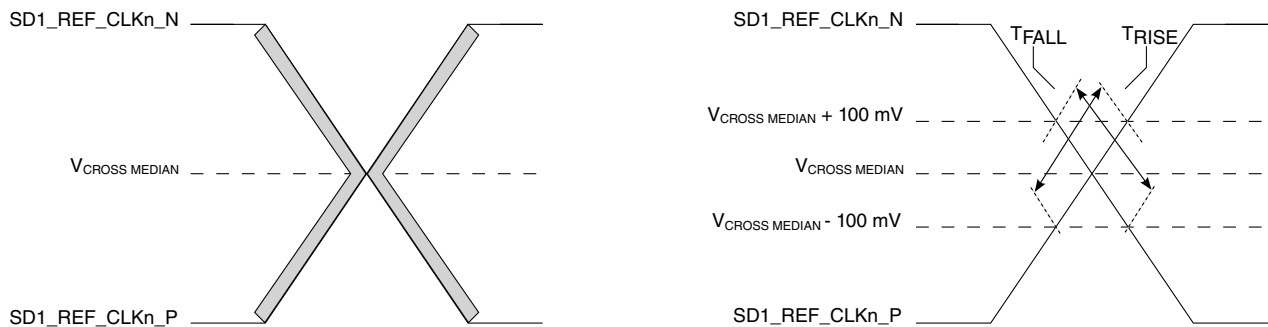

Figure 80. Single-ended measurement points for rise and fall time matching
- Matching applies to rising edge for SD1_REF_CLKn_P and falling edge rate for SD1_REF_CLKn_N. It is measured using a 200 mV window centered on the median cross point where SD1_REF_CLKn_P rising meets SD1_REF_CLKn_N falling. The median cross point is used to calculate the voltage thresholds that the oscilloscope uses for the edge rate calculations. The rise edge rate of SD1_REF_CLKn_P must be compared to the fall edge rate of SD1_REF_CLKn_N, the maximum allowed difference should not exceed 20% of the slowest edge rate. See Figure 80.